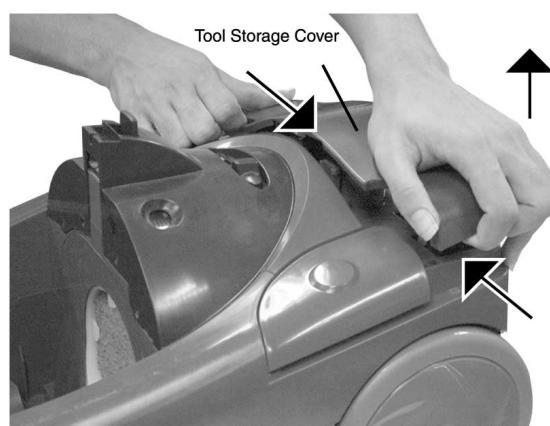

Fig.2
2. Remove the Tool Storage cover Upward. (Fig.2)